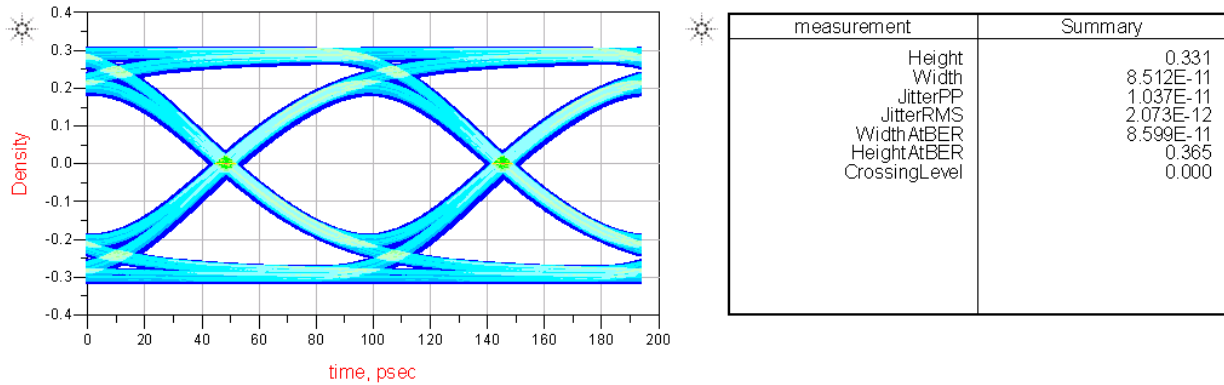

Figure 6: Example eye plot for ASIC TX to DS1xxDF410 to Optical module
12. Once the simulation completes, plot the eye (a.k.a. Density) and the mask. Figure 6 shows an example eye plot at the output of the channel. The quality of the eye generated in this second simulation will be affected by: